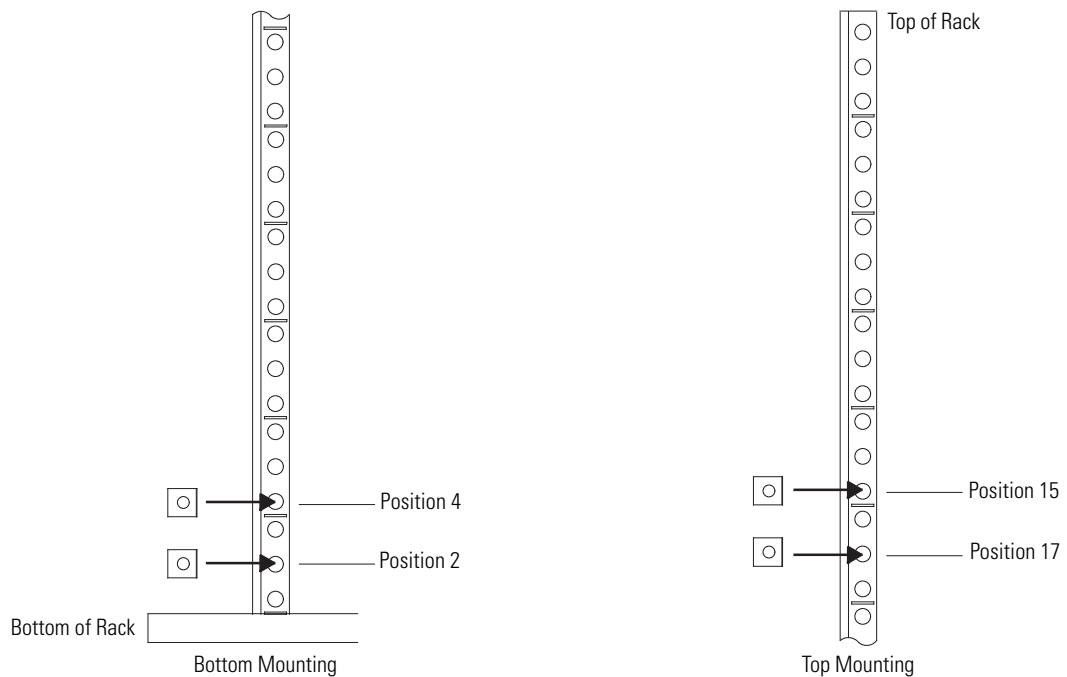
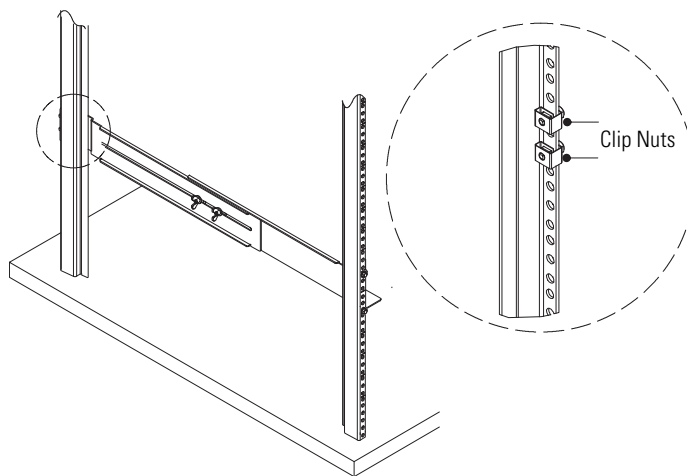

Figure 6. Rear Rail Screw Positions for the MBM
Figure 7. Securing the Rear Rail
4. Using two clip nuts and two hex-head screws, attach the rail to the rear of the rack (see Figure 6 and Figure 7).